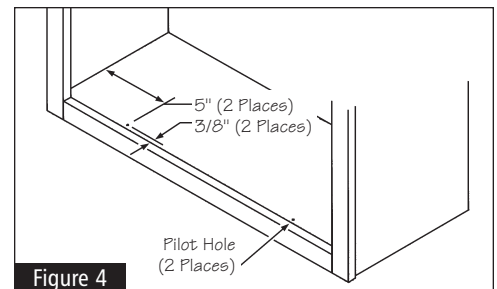

Figure 4
**2** Hold or clamp the SUC36T in the desired location under the wall cabinet that it is to be mounted to. Using a 3/32" drill bit, drill two pilot holes approximately 1-1/2" deep through the above wall cabinet bottom and into the SUC36T. Pilot holes should be 3/8" from the back of the above wall cabinet face frame and approximately 5" from each side panel of the above wall cabinet. See Figure 4.